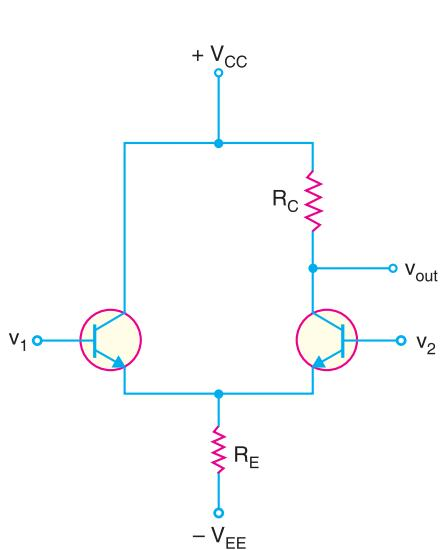
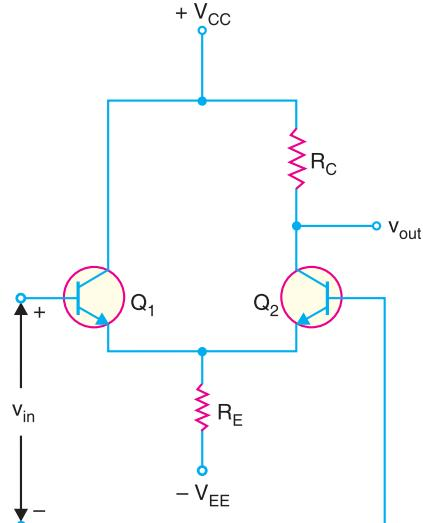
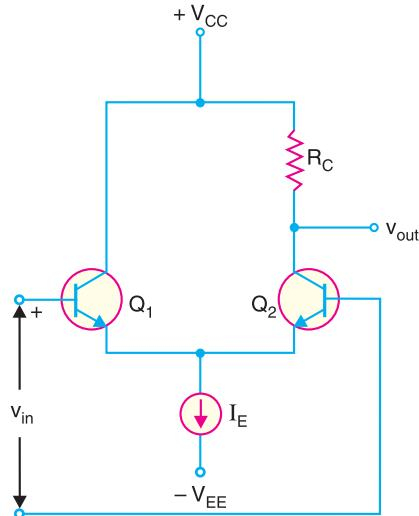
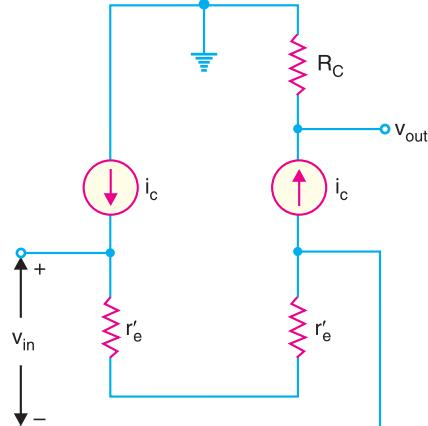

Fig. 25.27
Fig. 25.28
Fig. 25.29
Fig. 25.30
A differential amplifier (DA) has a noninverting input and an inverting input. Fig. 25.27 shows the differential amplifier (DA) that is used in IC OP-amps. Note the circuit has double-ended input and single-ended output.
If you look at the differential amplifier circuit in Fig. 25.27, it responds to the difference between the voltages at the two input terminals. In other words, DA responds to  $v_{in}$  ( $= v_1 - v_2$ ). Therefore, the circuit shown in Fig. 25.27 can be drawn as shown in Fig. 25.28.
Ideally (i.e.,  $V_{BE}$  is negligible), the tail current  $I_E$  in Fig. 25.27 is  $I_E = V_{EE}/R_E$ . Once the values of  $V_{EE}$  and  $R_E$  are set, the tail current is constant. Therefore, to simplify a.c. analysis, we can replace the tail current by a current source ( $I_E$ ) as shown in Fig. 25.29. This will simplify the a.c. analysis of the circuit with almost no loss of accuracy.
**A.C. Equivalent Circuit.** We can easily find the a.c. equivalent circuit of differential amplifier by applying the usual rules to Fig. 25.29. The rules are to short all the capacitors, and reduce all d.c. sources to zero. Since a differential amplifier has no capacitors, all that we have to do is to reduce the d.c. sources to zero. Reducing a voltage source to zero is equivalent to replacing it by a short. Reducing a current source to zero is equivalent to opening it. In Fig. 25.29, this means ground the VCC point, ground the VEE point and open the current source. Applying these conditions to Fig. 25.29, we get the a.c. equivalent circuit of differential amplifier shown in Fig. 25.30.
**Voltage gain.** Fig. 25.30 shows the a.c. equivalent circuit of a differential amplifier. This is how a differential amplifier looks to an a.c. signal. Note that r'e (= 25 mV/d.c. emitter current) is the a.c. emitter resistance. Since the two r'e's are in series, the same a.c. emitter current exists in both transistors. The a.c. emitter current is given by;